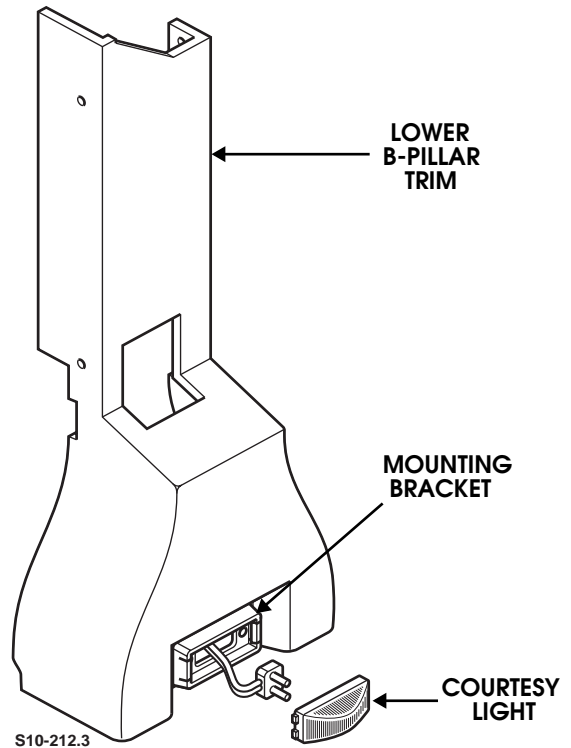

Figure 10-177: Rear Seat Courtesy Light Replacement
1. Carefully pry courtesy light from mounting bracket (Figure 10-177).
1. Connect courtesy light to the electrical connector (Figure 10-177).